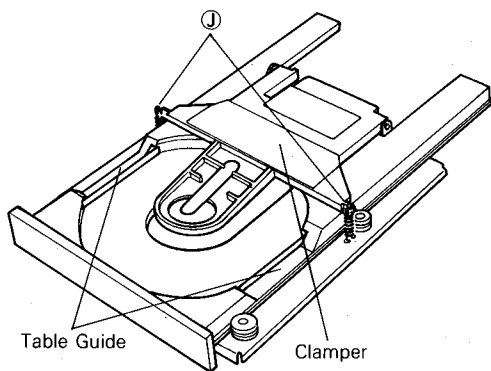

Fig. 6
Removing the two springs at (J) enables you to remove the Clamper. (Fig. 6)